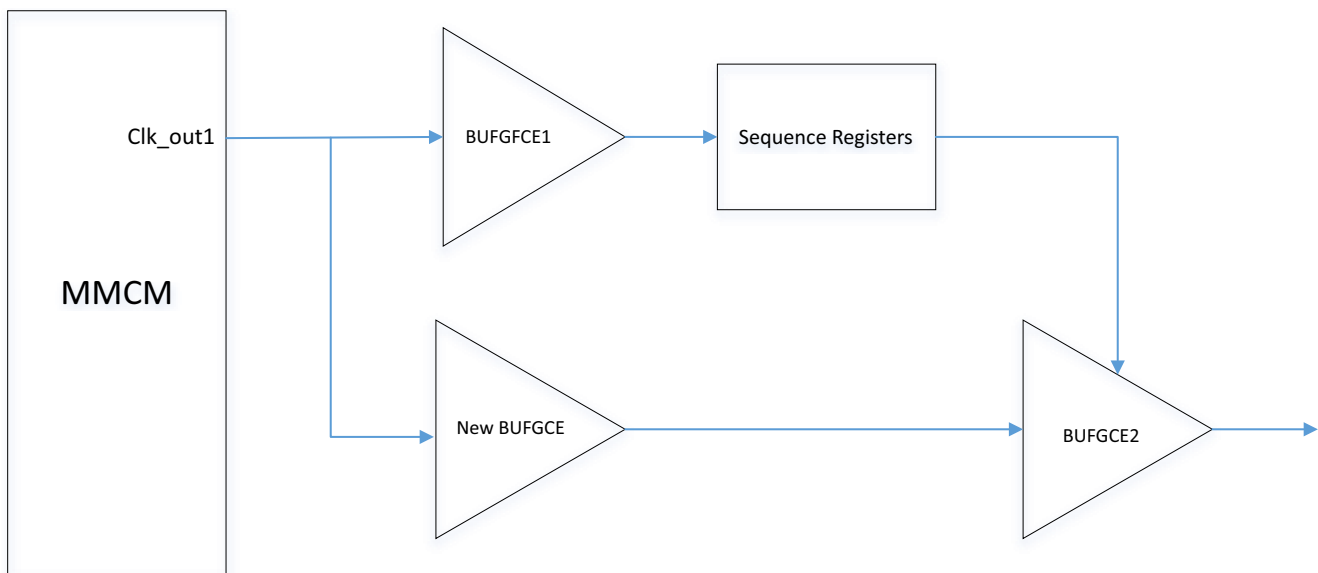

Figure C-1: Safe Clock Startup Failing Path
1. Add an additional BUFVCE cascaded in the failing clock path along with the existing BUFVCE in safe clock startup path. Figure C-1 shows the failing path for the `clk_out1`. Insert New BUFVCE between MMCM and the BUFVCE2 as shown below.